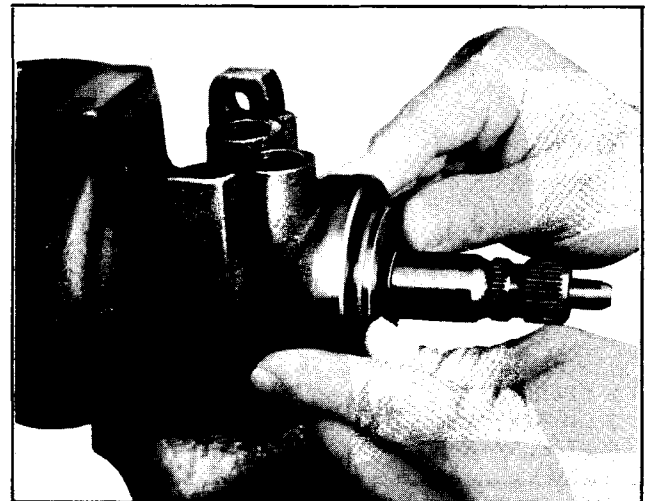

Fig. 9-106 Installing Valve Body
- d. Apply pressure to the VALVE BODY when installing. If pressure is applied to the lower shaft during installation, the shaft may be forced out of the valve body (Fig. 9-106).